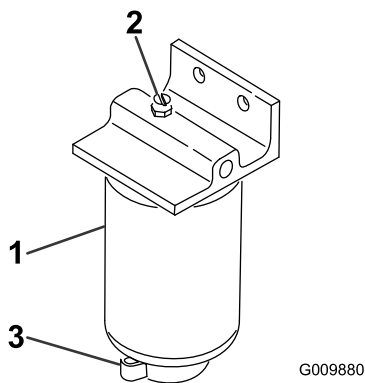

Figure 58
3. Loosen the drain valve on the bottom of the filter canister (Figure 58).
2. Clean the area where the filter canister mounts (Figure 58).